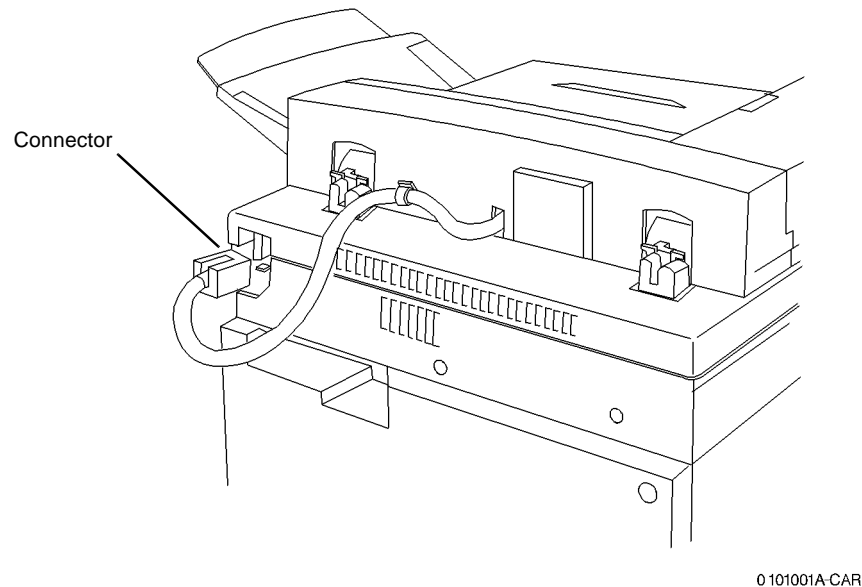

Figure 1 Disconnecting Connector
1. Disconnect connector (Figure 1).